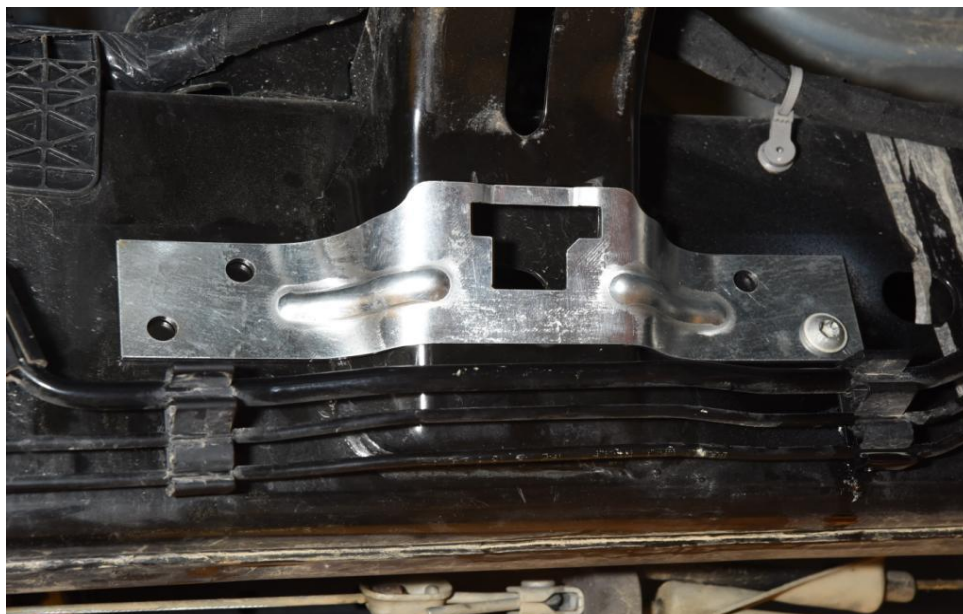

Figure 20 – Frame Bracket
45. Align and install the **NEW** frame bracket using the provided bolt to temporary hold the bracket in place (Figure 20).